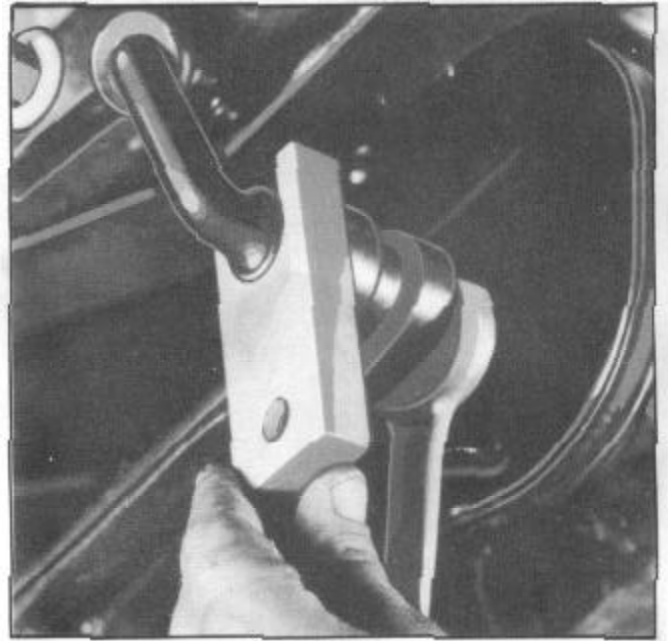

Figure 28--Rear Spring Shackle Bushing Locating Gauge J 524
6. Insert one end of the rear spring shackle thru the main leaf eye after placing rubber dust seals in place on shackle and place tool J 524 between the spring eye and shackle as shown in Figure 28.
9. Locate the shackle with the spacer tool J 524 as shown in Figure 28 and start the threaded bushing on the shackle and draw it tightly into the mounting.